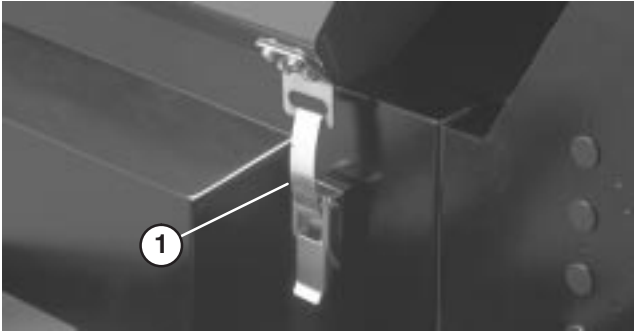

Figure 2
1. Park machine on a level surface. Release engine cover latches (Fig. 2).